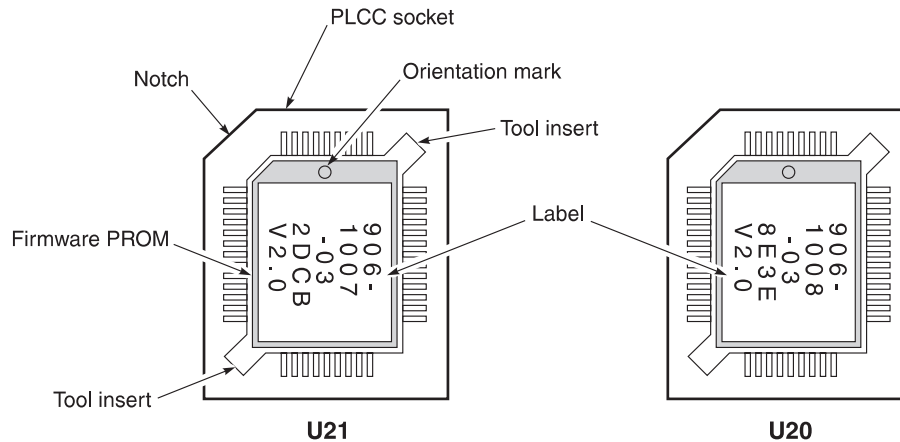

Figure 2. EMU-830 PROM Labeling
The labeling that identifies each PROM is shown in Figure 2.
- 3 Insert a PROM extraction tool into the "Tool Insert" slots on the U21 socket (see Figure 2).
- 5 Locate the U21 replacement PROM shipped with your kit; it is labeled as shown in Figure 2.
- 9 Insert a PROM extraction tool into the "Tool Insert" slots on the U20 socket (see Figure 2).
- 11 Locate the U20 replacement PROM shipped with your kit; it is labeled as shown in Figure 2.